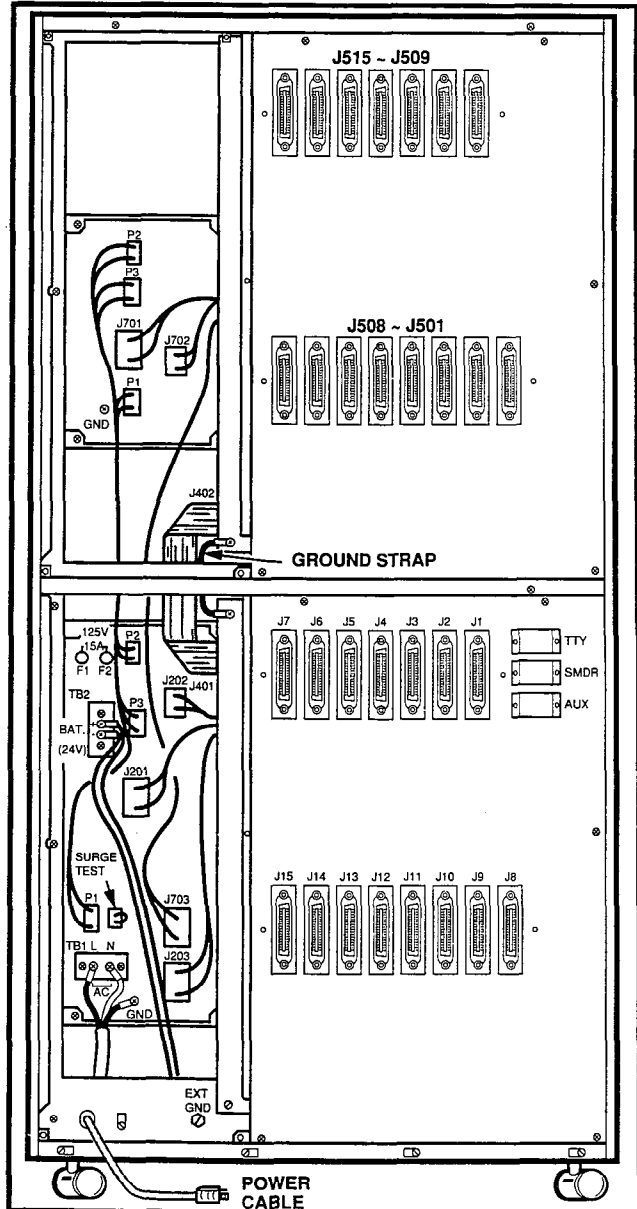

FIGURE 4-2—PERCEPTION_e
- 8) Connect the white and black leads to the **AC** terminal (black to **L** and white to **N**) and the green lead (ground) to the **GND** screw on the main power supply (Figure 4-2). Replace the plastic cover and secure with two screws.
- 14) Turn the power supply **OFF** and then connect **J201**, **J202** and **J203**, respectively, as shown in Figure 4-2.
- 17) Connect the peak load battery cables to TB2 on the rear of the basic power supply (see Figure 4-2). Ensure that the correct polarity is observed as follows:
- 8) Connect the intercabinet ground wire in accordance with Figure 4-2.